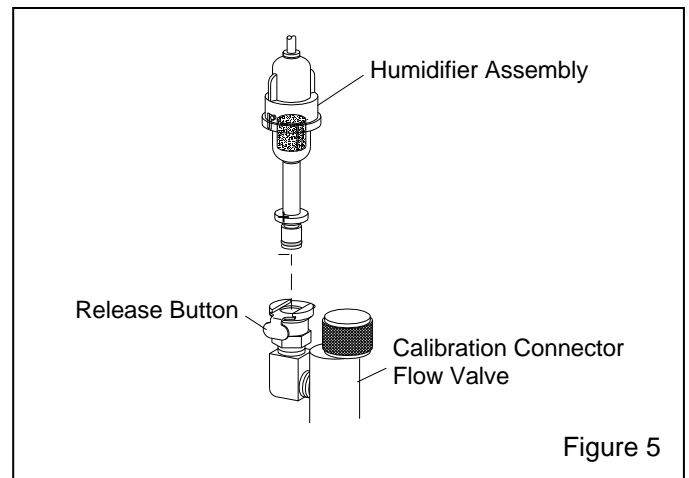

Figure 5
4.4.2 To avoid damaging the humidifier case, remove the humidifier from the calibration-connector flow-valve. To remove, press and hold the release button and pull the humidifier assembly out of the connector body as shown in Figure 5.